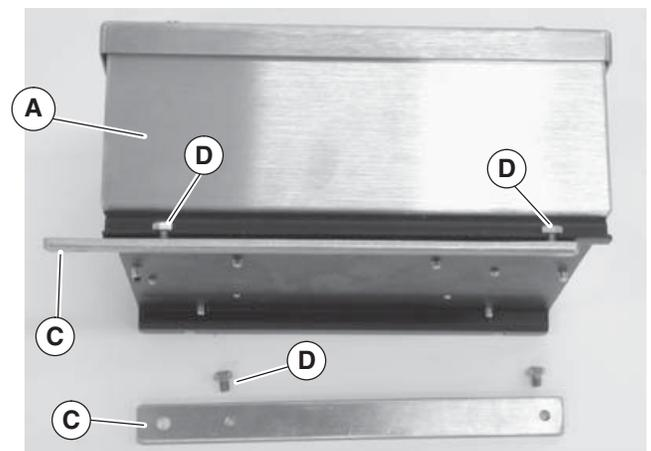

Figure 4
2. Attach mounting bars (Figure 4, item C) to controller (A) with screws (D).